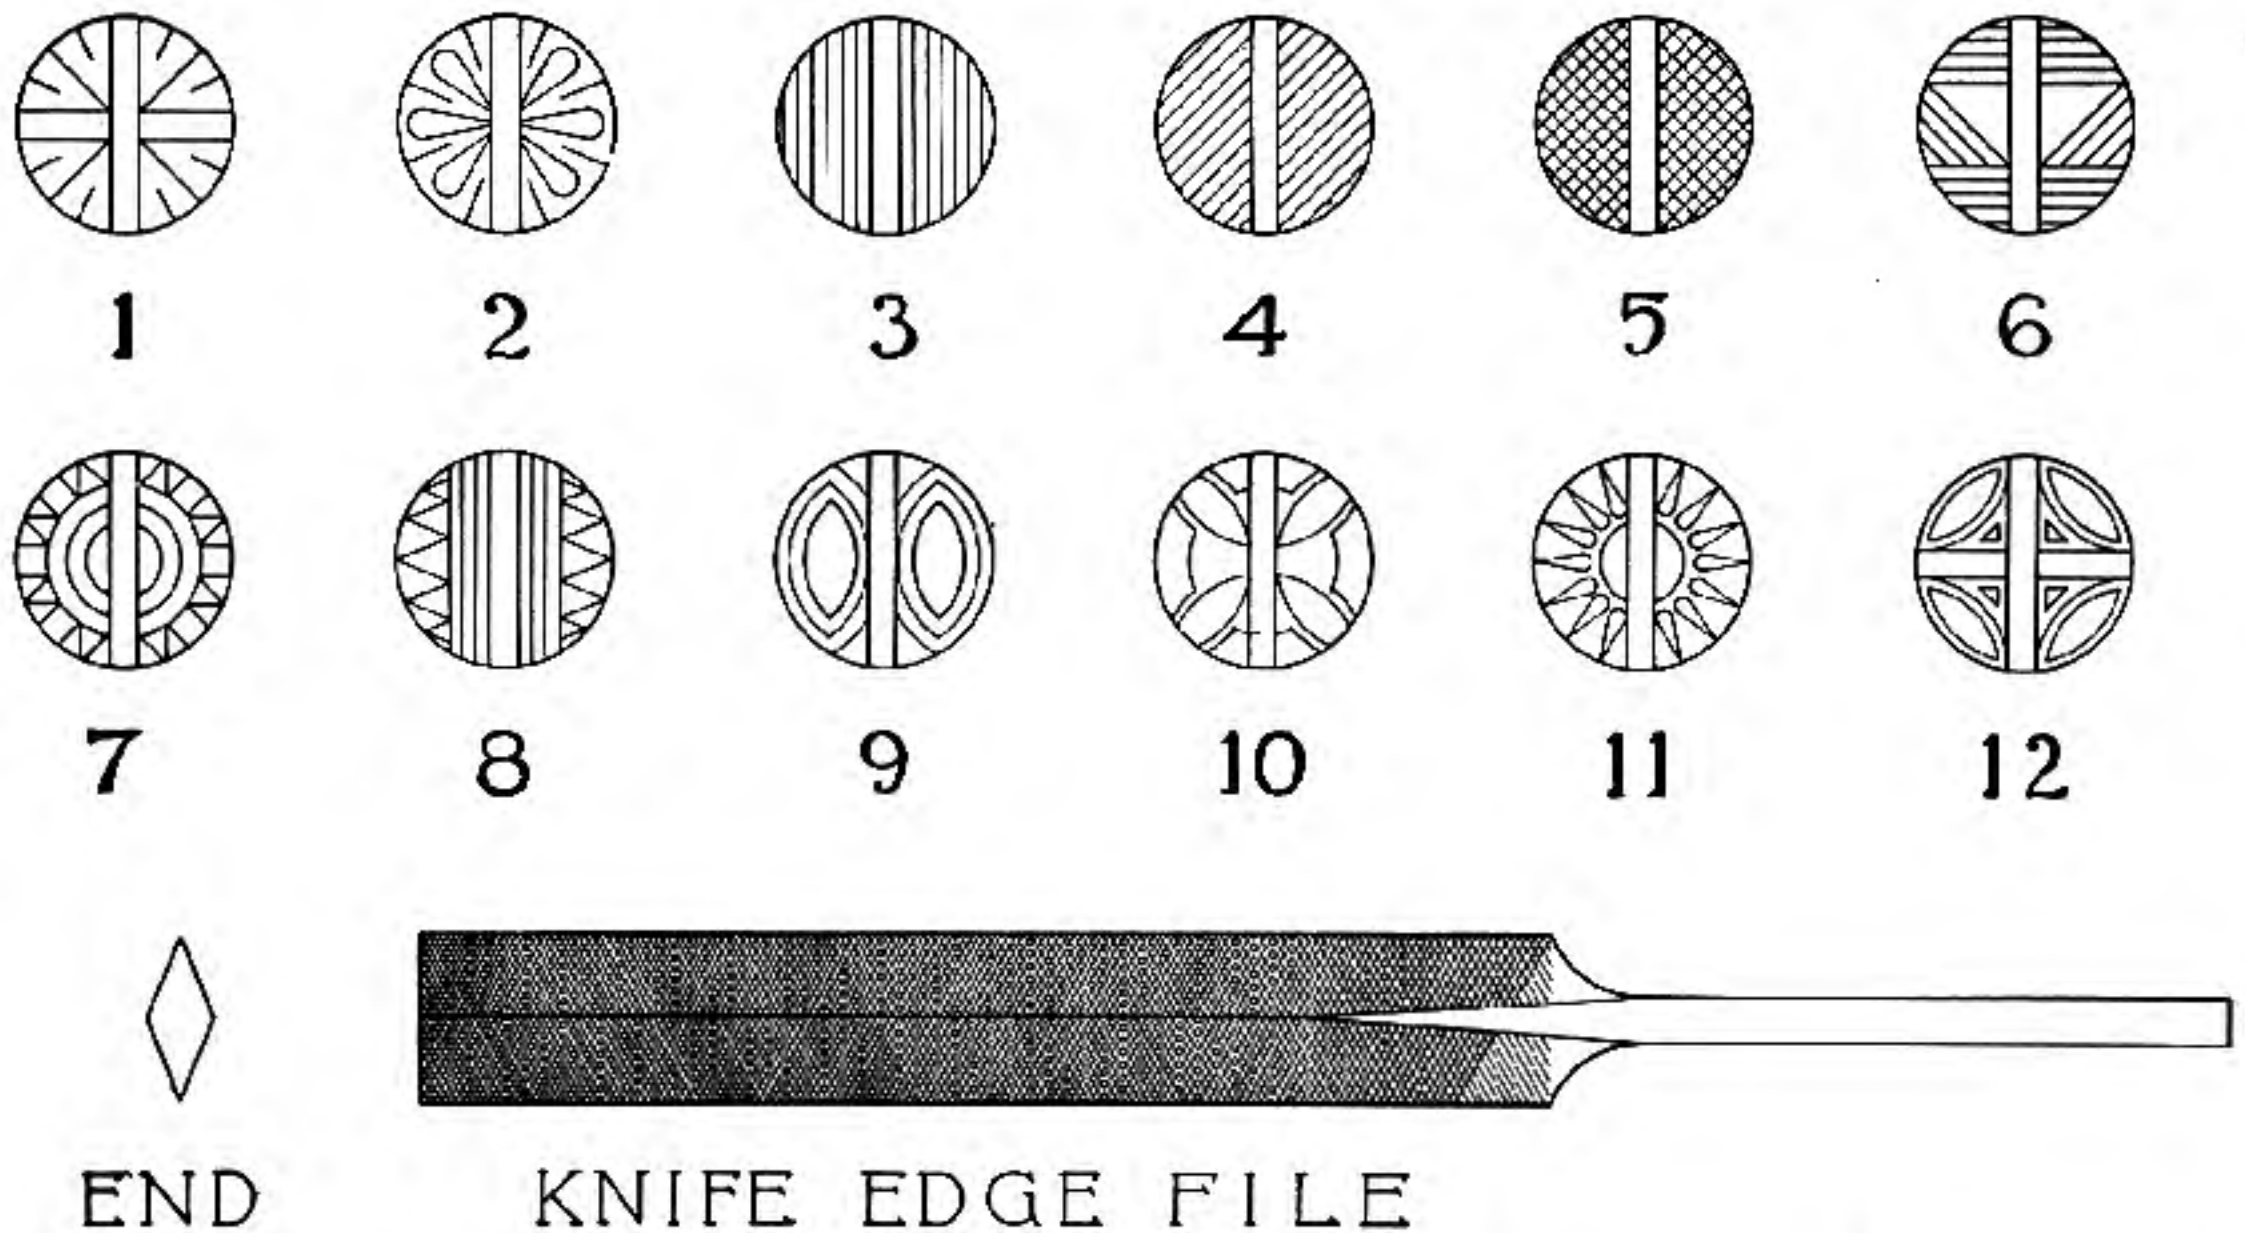

Fig. 138
**Screw Heads** — File some simple design on screw heads rather than leave them plain, especially the screws which secure the pistol-grip cap and also the butt plate, as illustrated in Figure 138. This is only a way of relieving the plain appearance of the heads, but it shows that some forethought has been used. Naturally, the designs on all the heads should conform with each other. I advocate this on all screws which show in bold relief, such as the guard screws, forearm screws, and on revolvers where the heads show, such as the side plates, etc. File the lines very shallow on these heads, for lines that are too deep not only look bad, but accumulate dirt and oil in the cuts. The only file used is a double knife-edge needle file. Catch the screw between the lead vise jaws, and place the fine lines across the face. If you should have a lathe, fine circles may be cut and then the lines can be worked up to these. A very neat design is the checkered head. It requires a little patience to keep the lines even and straight, but you will find that with a little practise this can easily be accomplished. The fine straight lines